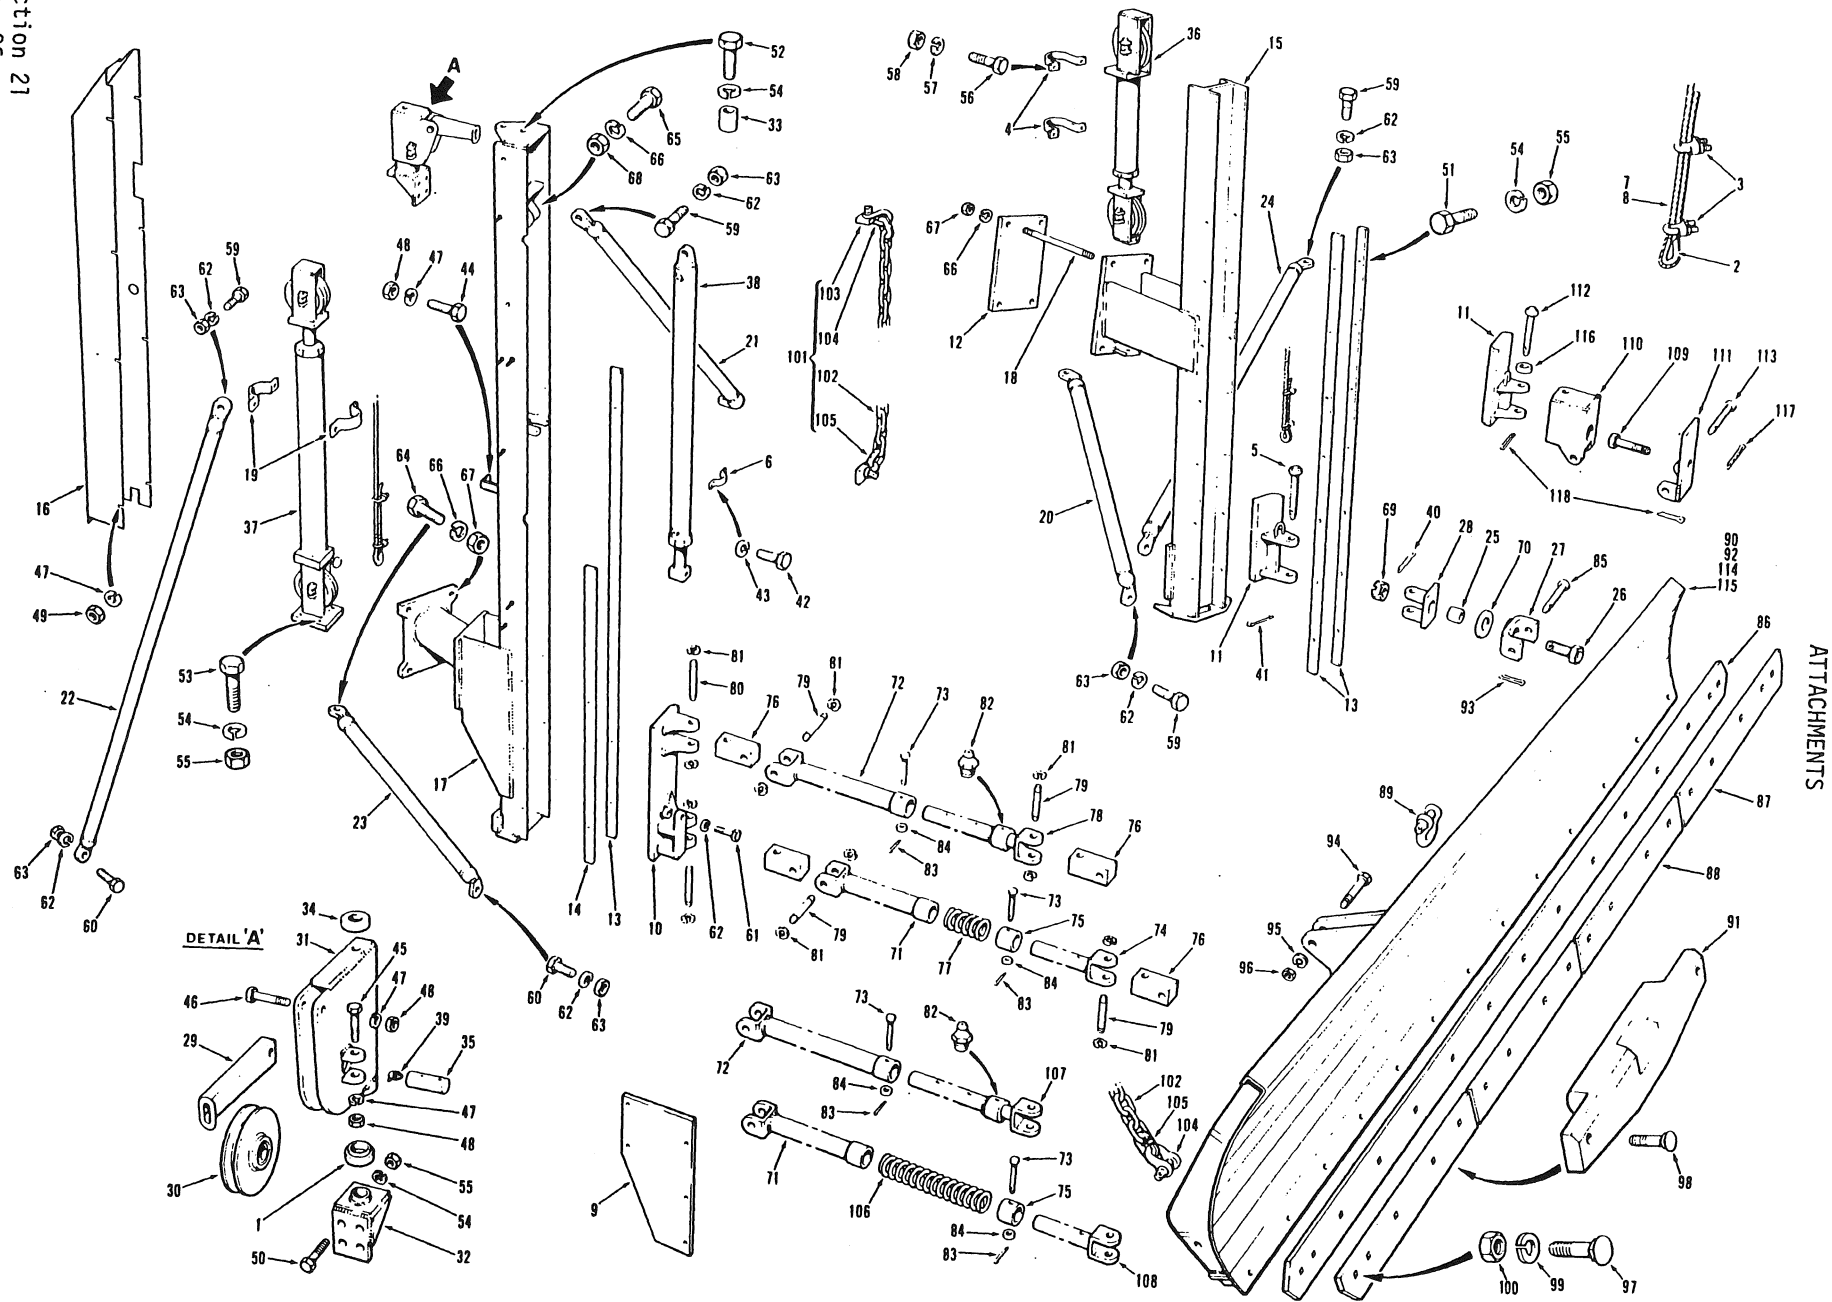

Figure 15
1. Removal and Disassembly (Figs. 15, 16 and 17).
Attach the lifting tackle to the wing blade (90, 92, 114 or 115, Fig. 15). Remove the two hexagon head bolts (94, Fig. 15), nuts (96, Fig. 15) and lockwashers (95, Fig. 15) retaining the knuckles (76, Fig. 15) to the wing blade. Remove and discard the cotter
pin (93, Fig. 15) retaining the pin (85, Fig. 15), and remove the pin. Disconnect the shackle (89, Fig. 15) and remove the cable (8, Fig. 15). Hoist the blade away from the grader. Remove the lifting tackle.
For machines equipped with the optional trip wing installation, remove and discard the cotter pin (118, Fig. 15) retaining the pivot plate pin (113, Fig. 15), and remove the pin. Remove and discard the cotter pin (117, Fig. 15) retaining the hexagon head bolt (109, Fig. 15). Remove the bolt and hinge plate (111, Fig. 15).
7. Attach the lifting tackle to the front mast (15, Fig. 15). Remove the hexagon head bolts (59, Fig. 15), nuts (63, Fig. 15) and lockwashers (62, Fig. 15) retaining the lower front mast brace (20, Fig. 15) and forward front mast brace (24, Fig. 15). Remove the braces.
8. Remove the four nuts (67, Fig. 15) and lockwashers (66, Fig. 15) retaining the front mast to the mounting bracket tie bolts (18, Fig. 15). Carefully hoist the front mast away from the grader. Remove the mounting bracket (12, Fig. 15) and tie bolts. Remove the lifting tackle.
9. Remove the kliprings (81, Fig. 15) securing the two attachment pins (80, Fig. 15) connecting the knuckles (76, Fig. 15) to the rear mast slide (10, Fig. 15). Remove both the upper and lower stand-off arms.
10. Attach the lifting tackle to the rear mast (17, Fig. 15). Remove the hexagon head bolts (59, Fig. 15), nuts (63, Fig. 15) and lockwashers (62, Fig. 15) retaining the forward rear mast brace (21, Fig. 15). Remove the hexagon head bolts (59 and 60, Fig. 15), nuts (63, Fig. 15) and lockwashers (62, Fig. 15) retaining the aft rear mast brace (22, Fig. 15). Remove the hexagon head bolts (60 and 64, Fig. 15), nuts (63 and 67, Fig. 15) and lockwashers (67 and 66, Fig. 15) retaining the lower rear mast brace (23, Fig. 15). Remove the braces.
11. Remove the four hexagon head bolts (64, Fig. 15), nuts (67, Fig. 15) and lockwashers (66, Fig. 15) retaining the rear mast support to the grader frame. Carefully hoist the rear mast away from the grader. Remove the lifting tackle.
- a. Remove the cable clamps (3, Fig. 15) securing the cable ends (7, Fig. 15). Release the two thimbles (2, Fig. 15), and remove the cable.
- b. Attach lifting tackle to the lift cylinder (36, Fig. 15). Remove the cylinder plumbing. Remove the four hexagon head bolts (56, Fig. 15), nuts (58, Fig. 15) and lockwashers (57, Fig. 15) retaining the two clamps (4, Fig. 15). Remove the clamps and cylinder.
- d. Remove the seven hexagon head bolts (51, Fig. 15), nuts (55, Fig. 15) and lockwashers (54, Fig. 15) retaining each slide guide (13, Fig. 15), and remove the guides.
- e. Remove and discard the cotter pin (41, Fig. 15) retaining the pin (5, Fig. 15), and remove the hinge assembly from the slide (11, Fig. 15). Remove the slide.
- f. Remove and discard the cotter pin (40, Fig. 15) retaining the hexagon head bolt (26, Fig. 15). Remove the bolt and jam nut (69, Fig. 15), and separate the hinge (28, Fig. 15), spacer (25, Fig. 15), flatwasher (70, Fig. 15) and mounting swivel (27, Fig. 15).
- a. Remove the eight nuts (49, Fig. 15) and lockwashers (47, Fig. 15) retaining the ice shield (16, Fig. 15), and remove the ice shield.
- b. Remove the cable clamps (3, Fig. 15) securing the cable ends (8, Fig. 15). Release the two thimbles (2, Fig. 15), and remove the cable.
For machines equipped with the optional trip wing installation, remove and discard the cotter pin (118, Fig. 15) retaining the swivel pin (112, Fig. 15). Remove the swivel pin, spacer washer (116, Fig. 15) and swivel assembly (110, Fig. 15). Remove the slide (11, Fig. 15).
- c. Remove the two hexagon head bolts (44, Fig. 15), nuts (48, Fig. 15) and lockwashers (47, Fig. 15) retaining the two clamps (19, Fig. 15).
- d. Attach lifting tackle to the lift cylinder (37, Fig. 15). Remove the cylinder plumbing. Remove the four hexagon head bolts (53, Fig. 15), nuts (55, Fig. 15) and lockwashers (54, Fig. 15) retaining the cylinder base plate. Remove the cylinder.
- f. Remove the hexagon head capscrew (61, Fig. 15) and lockwasher (62, Fig. 15) retaining the slide cylinder piston rod to the slide. Remove the cylinder plumbing. Remove the hexagon head capscrews (42, Fig. 15) and lockwashers (43, Fig. 15) retaining the clamp (6, Fig. 15). Remove the hexagon head bolt (65, Fig. 15), nut (68, Fig. 15) and lockwasher (66, Fig. 15) retaining the slide cylinder (38, Fig. 15) to the rear mast lugs. Remove the cylinder.
- g. Remove the twelve hexagon head bolts (51, Fig. 15), nuts (55, Fig. 15) and lockwashers (54, Fig. 15) retaining the long and short slide guides (13 and 14, Fig. 15), and remove the guides. Remove the slide.
- h. Remove the hexagon head capscrew (52, Fig. 15), lockwasher (54, Fig. 15) and spacer washer (33, Fig. 15). Remove the four hexagon head bolts (50, Fig. 15), nuts (55, Fig. 15) and lockwashers (54, Fig. 15) retaining the swivel housing bracket (32, Fig. 15). Remove the bracket, together with the swivel housing assembly, spacer collar (34, Fig. 15) and thrust bearing (1, Fig. 15). Inspect the thrust bearing for serviceability. Replace a faulty bearing.
- i. Remove the hexagon head bolt (46, Fig. 15), nut (48, Fig. 15) and lockwasher (47, Fig. 15) securing the cable guide (29, Fig. 15), and remove the guide.
- j. Remove the hexagon head bolt (45, Fig. 15), nut (48, Fig. 15) and lockwasher (47, Fig. 15) retaining the sheave pin (35, Fig. 15). Remove the sheave pin and sheave (30, Fig. 15) from the swivel housing (31, Fig. 15).
Remove the hardware retaining the ice shield (9, Fig. 15) to the mast, and remove the ice shield.
- l. For machines equipped with the optional wing safety chain assembly (101, Fig. 15), remove the two shackles (104, Fig. 15) at the lugs (103, Fig. 15), and remove the chain (102, Fig. 15). The chain can also be removed at the two split links (105, Fig. 15).
- a. Remove the kliprings (81, Fig. 15) securing the attachment pins (79, Fig. 15) connecting the knuckles (76, Fig. 15) to the inner sleeves (78 and 74, or 107 and 108, Fig. 15) and the outer sleeves (72 and 71, Fig. 15).
- b. Remove and discard the cotter pins (83, Fig. 15) retaining the shear pins (73, Fig. 15). Remove the shear pins and flatwashers (84, Fig. 15), and separate the inner and outer sleeves.
- c. Remove the collar (75, Fig. 15) and spring (77 or 106, Fig. 15).
15. Assembly and Installation (Figs. 15, 16 and 17). To assemble the upper and lower stand-off arms, proceed as follows: